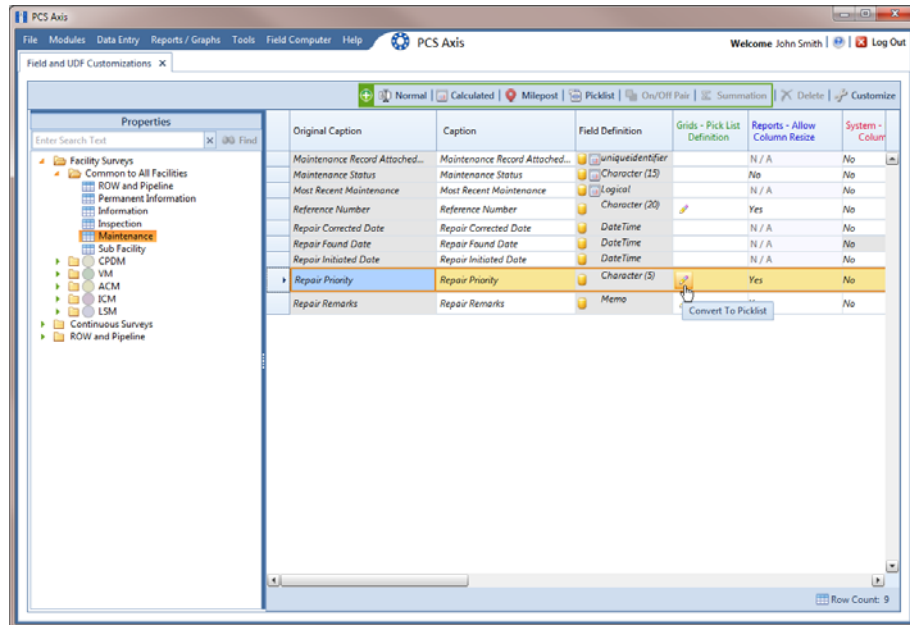

Figure 3-45. Field and UDF Customizations
For example, double-click **Facility Surveys > Common to All Facilities > Maintenance** to display a grid with fields and property settings related to all *Maintenance* data entry grids (Figure 3-45).
- Convert the selected data entry field to a *Standard Picklist* field. Click the edit icon  in the *Grids-Picklist Definition* field for the data entry field selected earlier, such as *Repair Priority* (Figure 3-45, page 92).